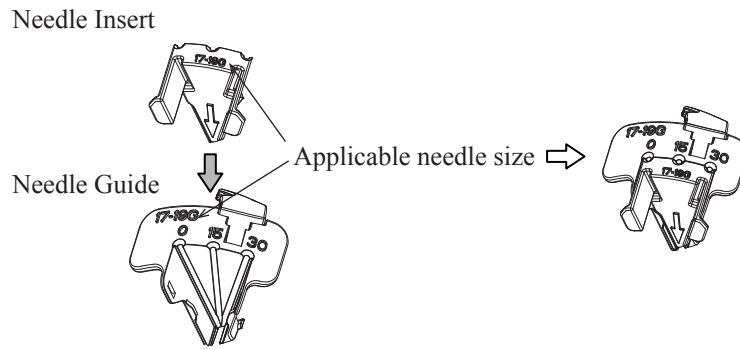
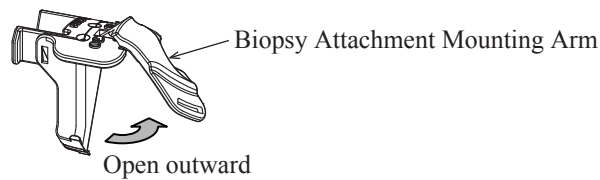

Figure 7 Biopsy Attachment assembly
Figure 8 Opening of Biopsy Attachment Mounting Arm
- (4) Assemble the needle Insert to the needle guide (Figure 7). Be sure that the gauze size engraved on each parts is the same. Open the biopsy attachment mounting arm outward to attach the biopsy attachment to the probe (Figure 8).